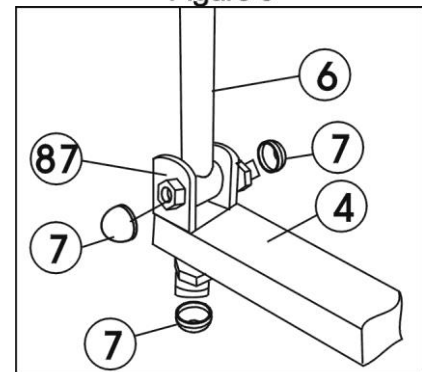

Figure 10
After installed and adjusted the equipment, clip on the cap nut 6 at the connecting of U-shape brackets (87), Handlebar supports (6) and Pedal support tube (4), (Refer Figure 10)